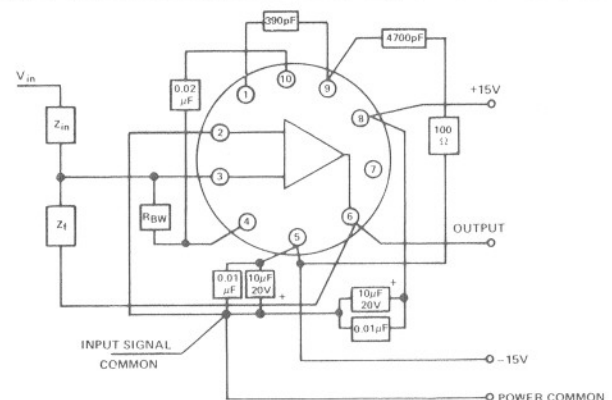

Figure 4. Wiring Diagram of the AD505.
- (1) Power supply bypasses should be provided as close to the amplifier as possible to eliminate ringing due to the inductance of power supply leads. A tantalum 10µF capacitor in parallel with a ceramic 0.01µF capacitor is sufficient for this purpose (see Figure 4).
- (2) All ground connections should be made at a single ground point.
- (3) Keep leads short to eliminate stray impedance effects.
Figure 4 shows an optimum wiring diagram of the AD505.